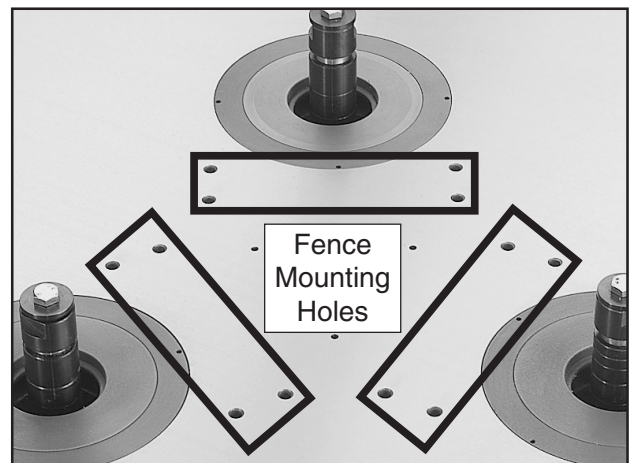

Figure 14. Location of fence assembly mounting holes on the table.
2. Position the fence and guard assemblies so that the guard dust ports are inserted into the dust hood and the mounting slots of the assemblies are aligned with the mounting holes in the table (see **Figures 14–15**).